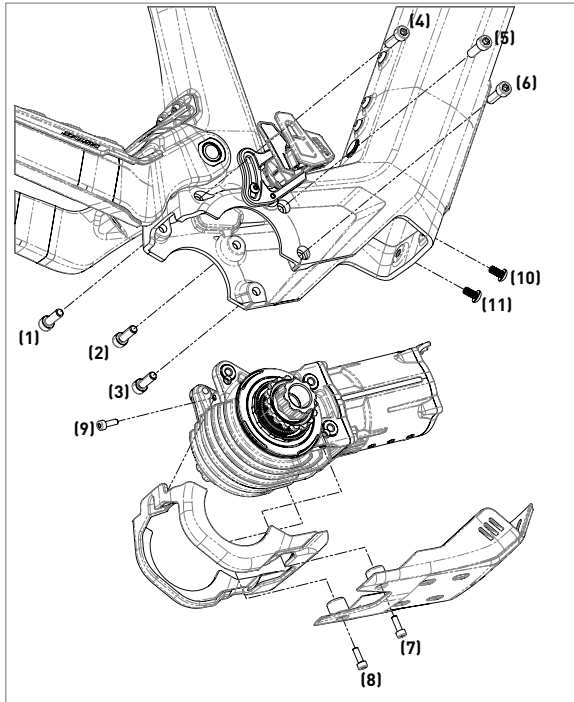

Figure 14
5. Remove the forward pair of screws (#10 and 11 in Fig. 14) fixing the cover to the underside of the downtube using a Torx T25 wrench. The covers and DU can be removed as a group. Removal of the covers from the DU is covered in the last step of this section.
6. Remove the six DU mounting screws (#1–6 in Fig. 14) using a Torx T30 socket and socket wrench. Caution: the drive unit is heavy and will fall out once drive unit bolts are uninstalled.
8. If necessary, separate the covers from the DU by using a 3 mm hex key to remove three M4 screws (#7–9 in Fig. 14).
- After the DU has been aligned and all six mounting screws loosely threaded, tighten screws #1–6 in numerical order as shown in Fig. 14 to 14Nm each. The left-side screws should be tightened first, and right-side screws last.